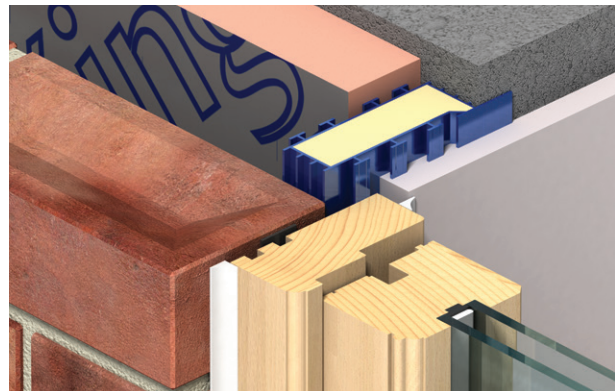

Figure 15: Flange fixed to the inner leaf
- Where a check reveal is required, or where a door or window frame is required to be set further back into the reveal (Figure 15), the secondary, i.e. the narrow flange on larger sections, should be removed.
- Kingspan Thermabate® should be built-in as the wall is being constructed (Figure 15), keying mortar from bed joints to the fins on the casing (Figure 19 A & B).